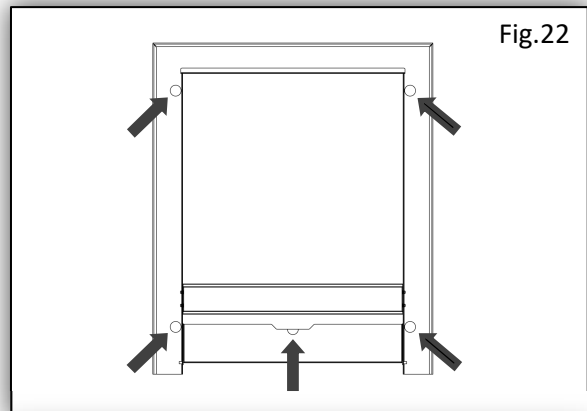

Fig.22
32. With the Suite in position. Lightly scribe the wall in line with outer edges of the Suite. Lift the Suite away from the wall. Measure inwards from the previously scribed line the thickness of the Suite leg plus 10mm. Fig.22.
33. Fix the 2x Wall brackets (C) in place using the appropriate fixing dependent on the type of wall material (**Fixings are not supplied – See Page 11**). Ensure Mantel Brackets (B) will fall halfway between the folds on the Wall Brackets (C). Fig.22.
40. With the Suite securely installed in the finished position. Unpack the Fire Trim (K) which is supplied separately.
42. Position the 4x 10mm diameter magnets to the rear of the Fire Trim (K) in the indicated positions. Fig.22.
43. Turn the Fire Trim (K) round to the front and drop the bottom trim louver down and place the last 10mm diameter magnets on the rear centre top of the trim louver and push back to contact the upper louver tab. Fig.22.